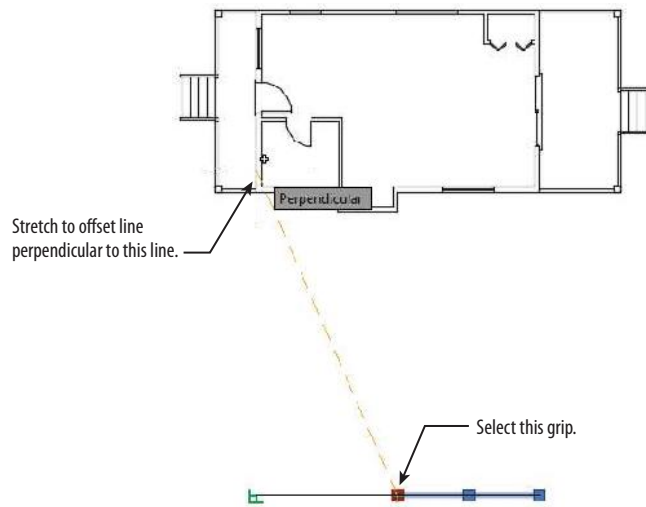

FIGURE 10.2: Using the grip to stretch the offset line
6. Use the Perpendicular osnap to stretch the line to the left extent of the building, as shown in Figure 10.2.